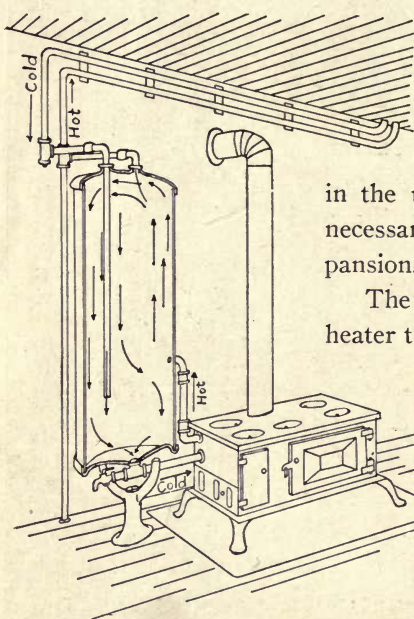

FIG. 37.—KITCHEN HOT WATER TANK
82. Hot Water Supply System. The same system applies to the heating of water in the kitchen boiler, to be used for washing purposes (Fig. 37). As in the heating system, there is usually a tank higher than the boiler, to allow for expansion.